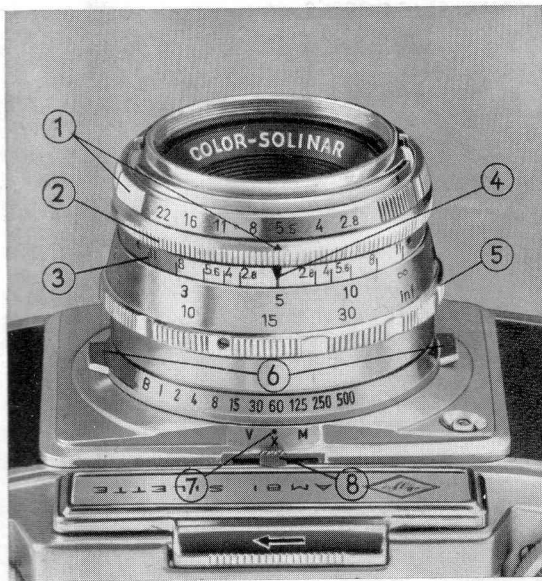

Fig. 19
An indication of the depth of field is also given by the depth-of-field scale ③ (Fig. 19) on the focusing ring. For example in Fig. 19 the distance focused on is 15 feet (5 m.). The stop numbers are equally spaced on either side of the central index mark ④. If then the lens is stopped down to $f/5.6$, the distances on the focusing scale corresponding to the two $f/5.6$ readings on either side show the range of sharp focus for this stop and subject distance, viz. about 10 to 30 feet (3.30 to 10 m.).
Two-Point Focusing is the simplest and most convenient practical way of dealing with depth of field. The red point (between 8 and 11) on the stop scale is set against the index mark and one of the red figures on the focusing scale on the red index mark ④ (Fig. 19). The approximate depth of field is then as follows:
Use the first or second finger to rotate the setting ring by means of the finger grips until the required shutter speed comes opposite the index mark ⑦ (Fig. 19).
The Synchro Compur shutter is provided with delayed action (selftimer). The synchronizing lever ③ (Fig. 19) is set to "V" which, however, **can be done only after the shutter has been wound**, i. e. after the film wind lever has been operated. The time interval between the release being pressed and the operation of the shutter is about 8 seconds. The lever returns then automatically to X. If the lever will not remain on "V" this indicates that the film has not been moved on, i. e. the shutter
Most of the commercial flash bulbs can be used for two types of synchronization, i. e. the firing delay (time interval between making contact and firing of flash) can be altered by the shutter. It is thus possible to vary the shutter speeds as follows: With synchronizing lever ⓐ (Fig. 19) set